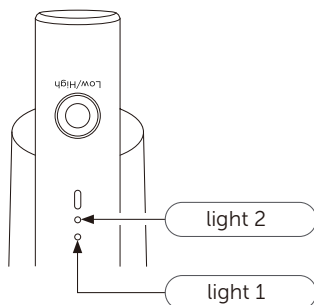

Fig. 2
3. The light indicator shows the status(Fig 2)